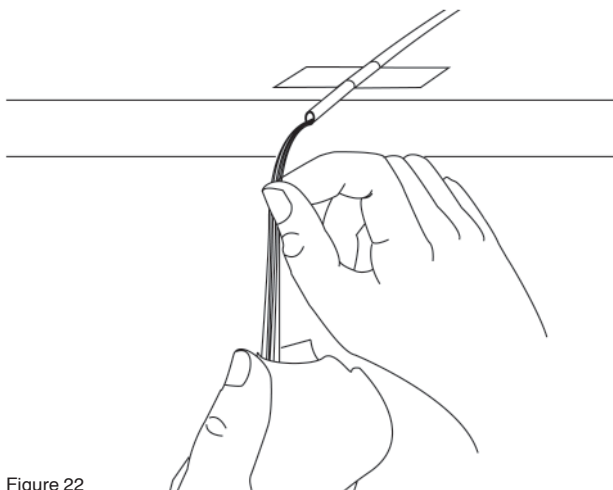

Figure 22
8.4 If the buffer tube is Gel-free, carefully cut out the water block yarns and proceed to step 8.6 (Figure 22). Use a clean lint free tissue to thoroughly dry each fiber.